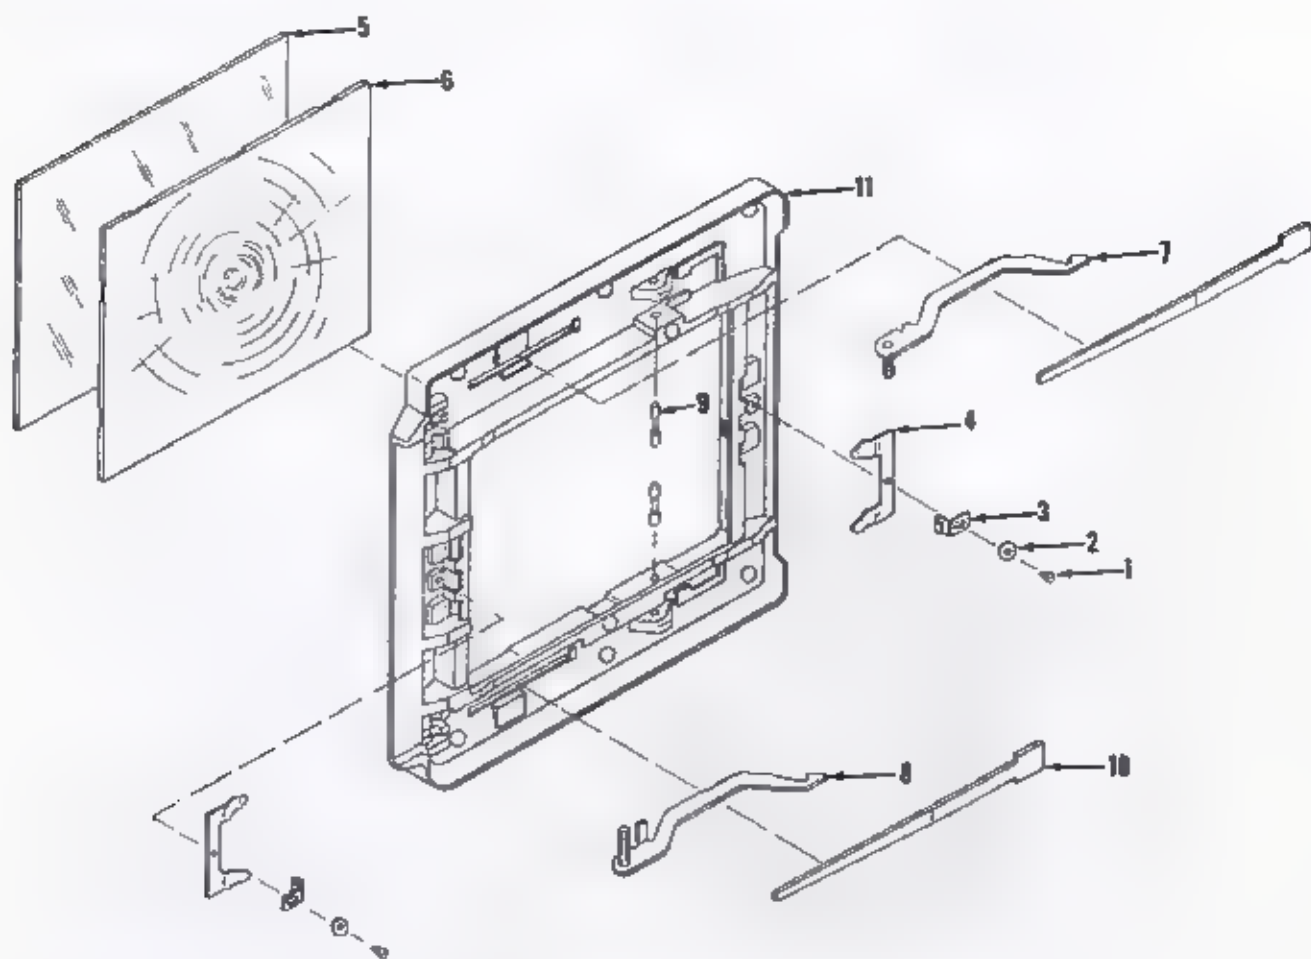

Figure 8. FOCUSING FRAME ASSEMBLY
T. FOCUSING FRAME ASSEMBLY - DISASSEMBLY AND REASSEMBLY (Figure 8)
- a. Remove machine screw (1), flat washer (2), focusing hood retainer (3) and focusing screen retainer (4) on two sides.
- b. Remove ground glass focusing screen (5) and Ektalite screen (6).
- c. Remove arm assembly (7) or (8) by lifting upward on hook end of arm and pulling straight backward.
- d. If necessary, remove spring pin (9) and arm assembly spring (10) by depressing spring (relieving spring tension on shaft of pin) and driving pin towards large opening in focusing frame (11). Repeat same procedure on opposite side.
- e. Wash ground glass focusing screen (5) and Ektalite screen (6) with soap and water. Rinse thoroughly and dry.